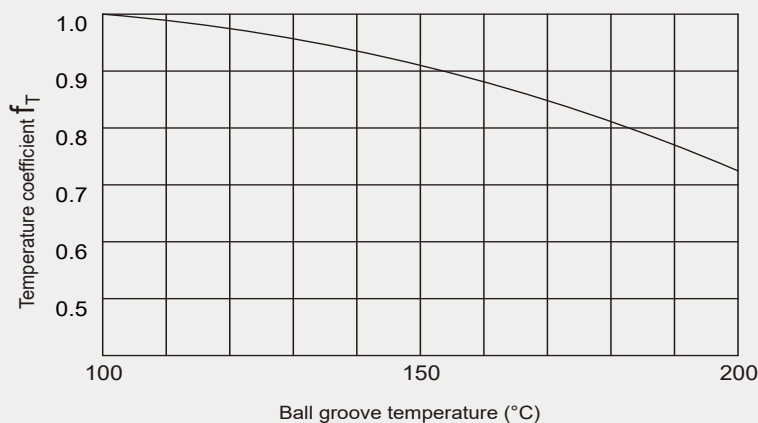

Figure 3-6. Temperature coefficient ( $f_T$ )
**C** : Basic dynamic load rating (N)
**PC** : Calculated value of radial load (N)
**fT** : Temperature coefficient (see the figure 3-6)
When using a ball spline in operating temperatures exceeding  $100^\circ\text{C}$ , multiply the temperature coefficient of Figure 3-6 when calculating the life, taking into account the adverse effects caused by high temperatures. Also, note that it is necessary to use ball spline products suitable for high temperatures.